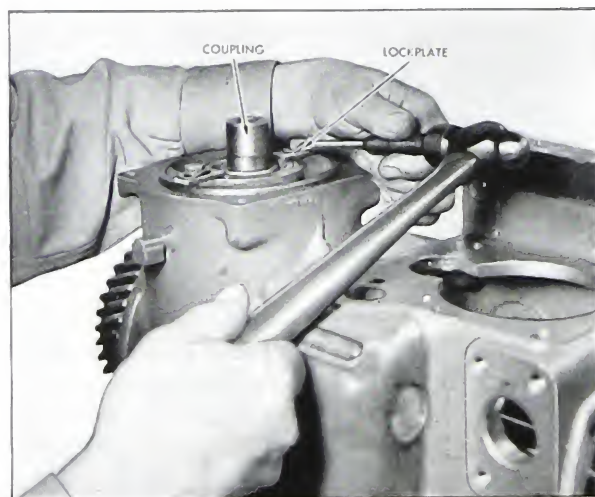

Fig. 5-158. Lock plates
4. Turn the lock plates to lock against the ball bearing retainer and tighten the capscrews. Fig. 5-158.